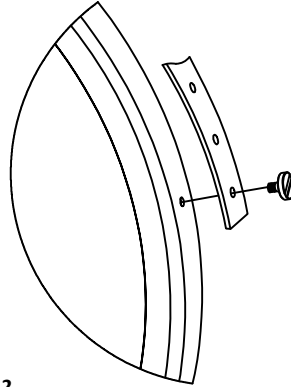

Fig 2
- 4) Attach the decorative strap to the side of the mirror frame using the bolts provided, see Fig 2. *Please note this is not intended to be used as the weight bearing fixing.*